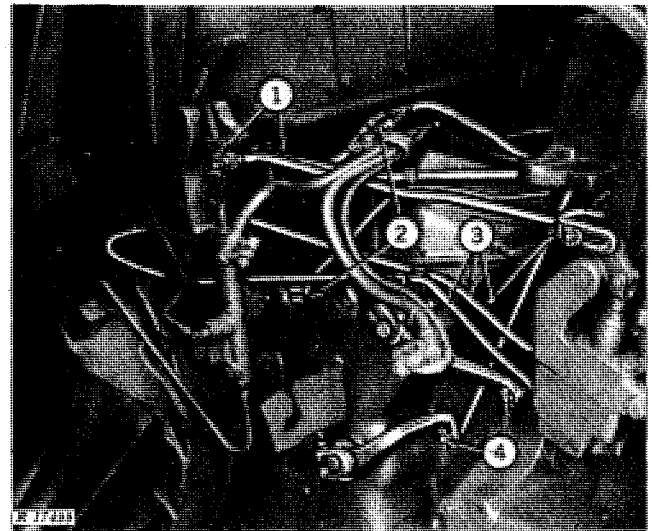

Fig. 15-Right-Hand Side of Transmission Case
1. Disconnect pressure pipe from rockshaft housing (Fig. 15), and differential lock link.